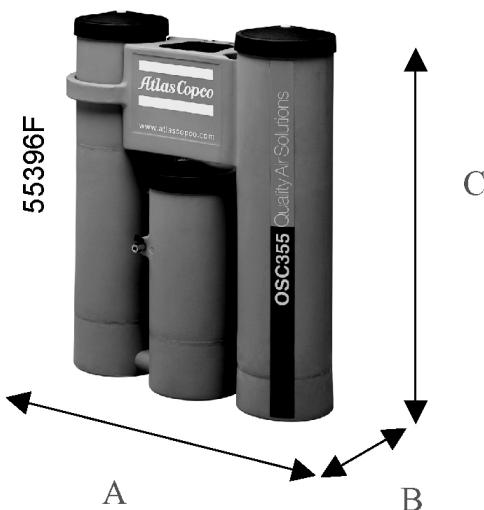

Fig. 1.4 Dimension drawing
3.1 Dimension drawing (Fig 1.4)